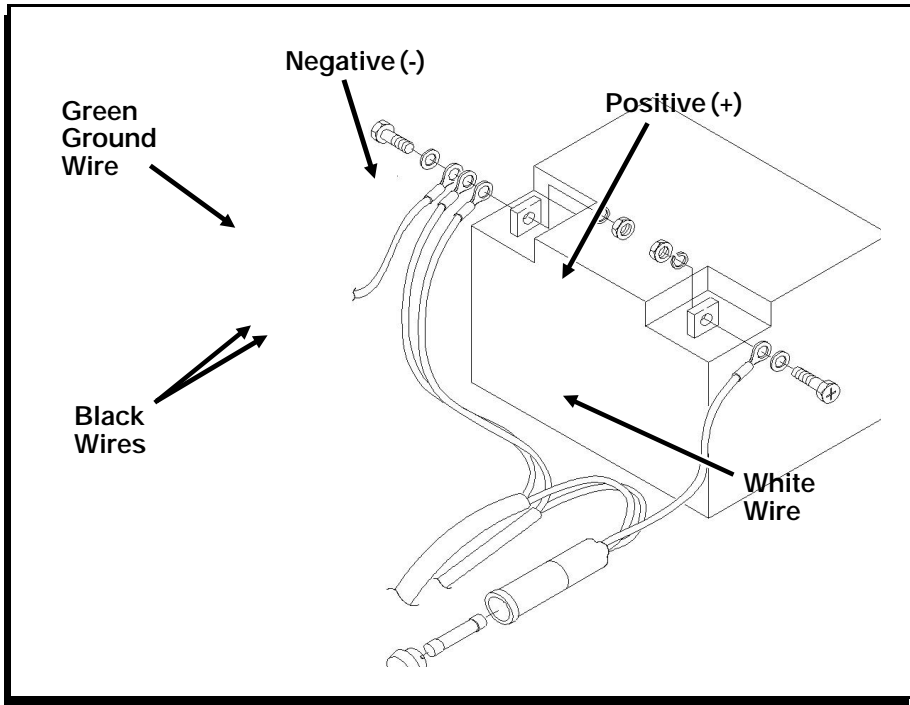

Figure 11
3. Place the battery on the cabinet floor. Remove the cardboard packaging. Use a 15mm bolt, washer, lockwasher, and M5 nut to attach the white battery wire to the positive (+) battery post. (Figure 11.)
5. Use a 15mm bolt, washer, lockwasher, and M5 nut to attach the two black wires and green (ground) wire to the negative (-) battery post. (Figure 11.)